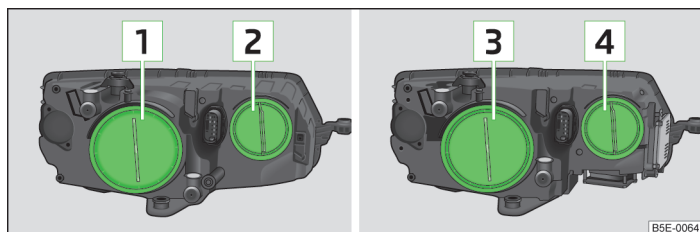

Fig. 220 Principle sketch: Headlight with halogen bulb/with Xenon bulb
- Remove the rubber cover » Fig. 220 on page 256.
- Remove the rubber cover **4** » Fig. 220 on page 256.